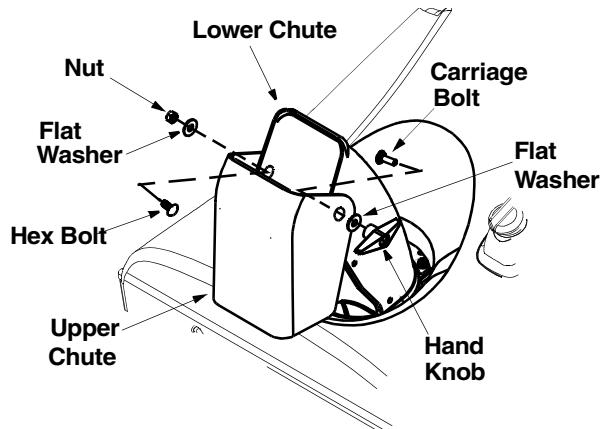

Figure 4
- Turn the chute crank until the chute faces straight to the front. See Figure 4 .
- Remove the hand knob, flat washer and carriage bolt from the upper chute. See Figure 4 .
- Adjust the upper discharge chute up or down as shown in Figure 4. You will have to loosen the hand knob to adjust the upper chute, and then retighten after correct adjustment is reached.